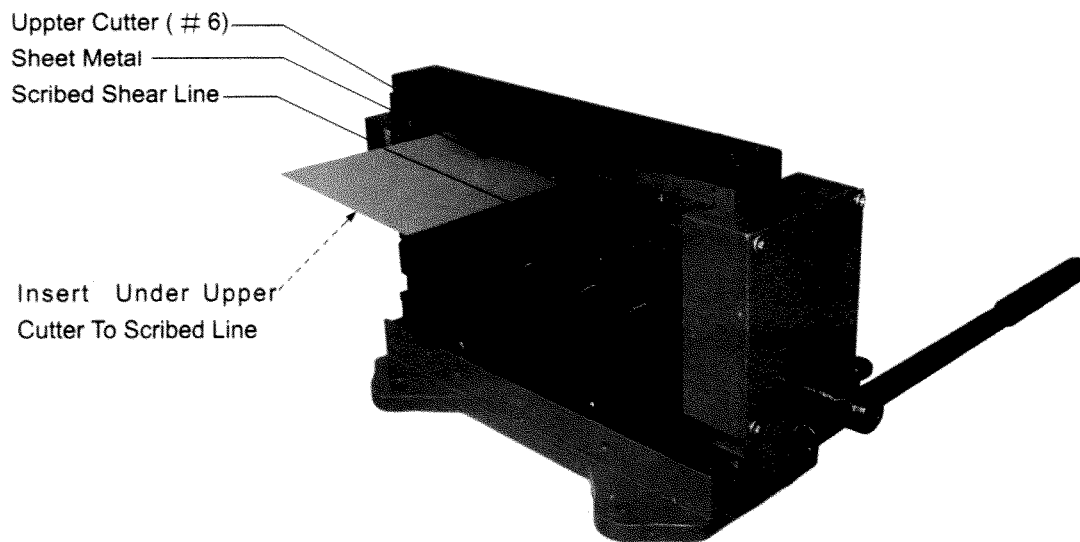

Figure8 - Inserting Scribed Sheet Metal
Step 3: Slide the material between the UPPER CUTTER (#6) and the LOWER CUTTER (#7) so that the UPPER CUTTER is positioned directly above the mark as shown in Figure 8.